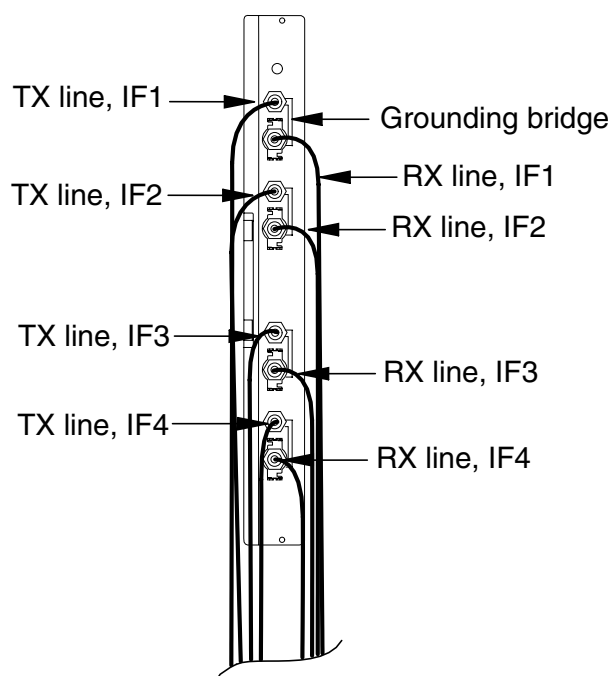

Figure 21. Cabling of the FXC E1 transmission unit
The FXC E1 has four pairs of 75 Ω connectors (type BT-43). Each pair forms a transmission interface (IF). The upper connector is always the TX connector of any given transmission interface. The lower connector is always the RX connector of any given transmission interface (see Figure 21).
The 75 Ω TX and RX connectors are connected to each other with a grounding bridge (see Figure 21). If the grounding bridge is removed, the grounding of the RX connector's outer conduct changes from direct grounding to capacitive grounding.
1. If you want to remove the grounding bridge (see Figure 21), use a 10 mm hexagon socket to loosen both connectors and pull out the bridge. Re-tighten the connectors.
2. Connect the connector of the received (RX) signal line to the 75 Ω RX connector on IF1.
3. Connect the connector of the transmitted (TX) signal line to the 75 Ω TX connector on IF1.
4. Cable the other IFs in the same manner (see Figure 21).